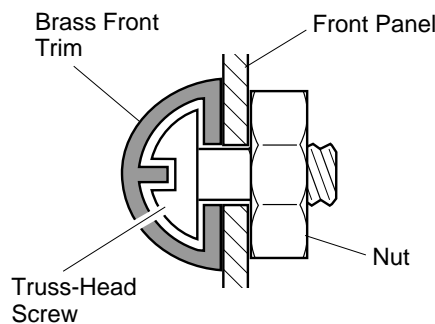

**Figure 4 - Assembling Heater**
3. Line up screws with holes in front panel (see Figure 4). Insert screws in holes. Attach nuts from inside of front panel. Tighten with wrench.